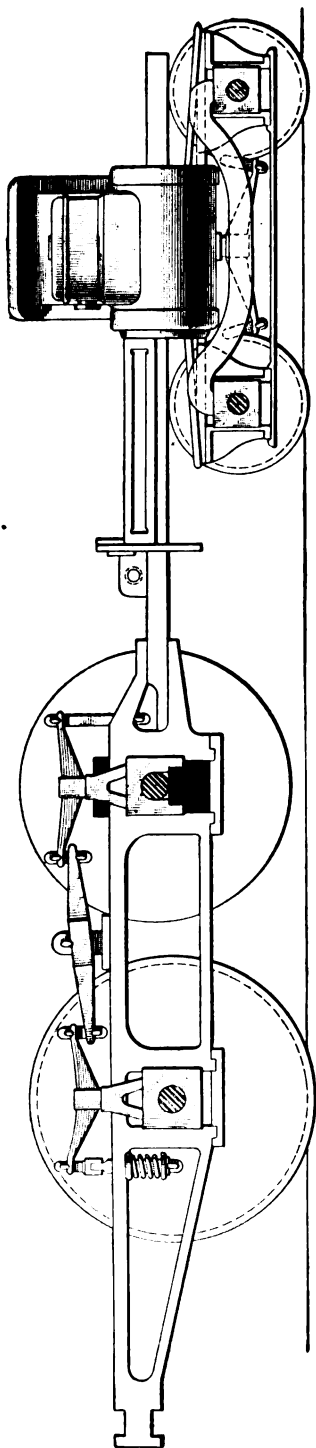

FIG. 20.
**53.** If the tire breaks on the front driver of an engine having overhung spring rigging, it will be necessary to raise the wheel the thickness of the tire above the rail and carry it in that position after relieving it of the weight it carries. To block up for an accident of this kind, proceed as follows: Run the wheel with the broken tire up on a wedge, until it has been raised 4 or 5 inches, and place an iron block between the top of the frame and the spring saddle, as shown in Fig. 20. Remove the oil cellar and fit a block of wood in its place (the grain of the wood running parallel with the axle), and fit another block between the bottom of the driving box and the pedestal brace. The two blocks between the pedestal brace and the axle are intended to carry the weight of the wheel and the box; whereas, the block between the top of the frame and the spring saddle relieves the box of its load. It is necessary to so relieve the box, for the reason that otherwise the pedestal brace would be required to carry the weight of both the wheel and the box, and also the weight that the box usually carries, and the result would be a broken pedestal brace and still more trouble. The space around the driving axle should be filled with waste well saturated